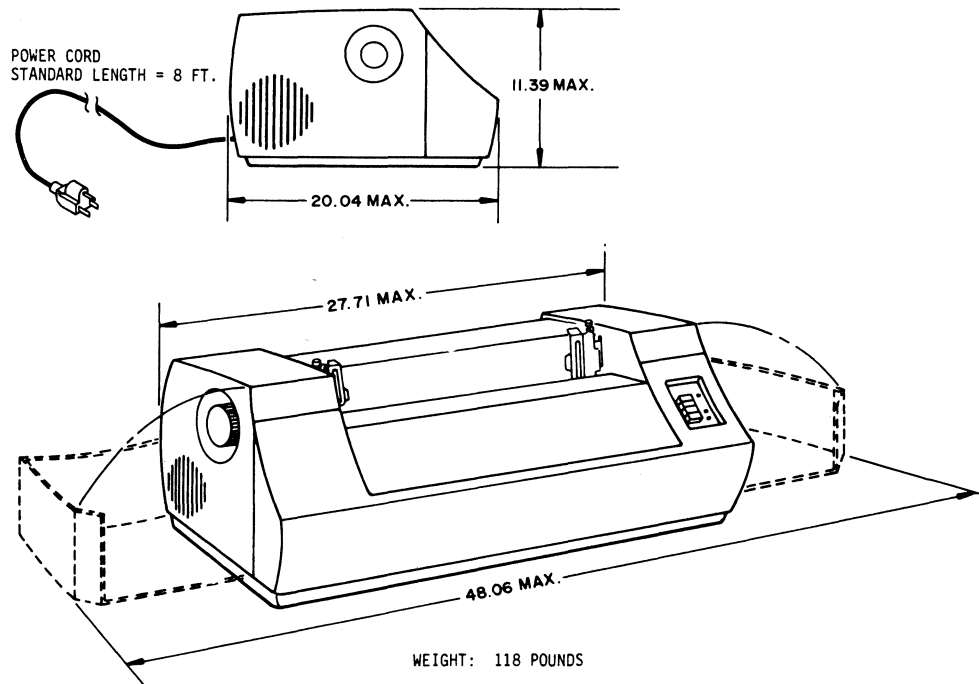

Figure 2-1. PRINTER DIMENSIONS
2.1 SITE PREPARATION (Figure 2-1)
A line drawing of the printer dimensions is shown in Figure 2-1. As shown in this drawing, the width of the installation site must take into account the side covers in an opened position.